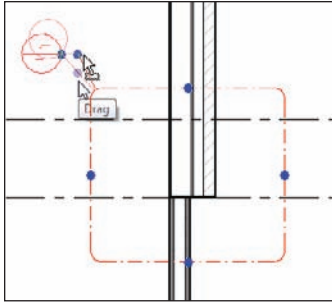

FIGURE 3.62 Adjusting the callout will be a common task.
9. Drag the bubble to the location shown in Figure 3.62.
10. Pick the blue midpoint grip on the leader and create an elbow, as shown in Figure 3.62.